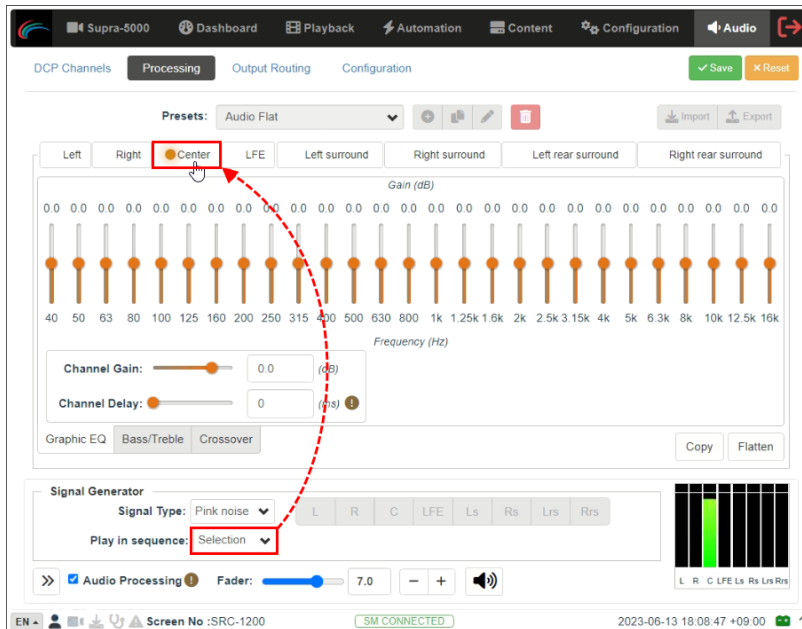

Figure 155: Play Test Signal through selected EQ channel
- c) You can select the 'Selection' option from the **Play in sequence** drop-down in order to play the test signal through the channel which is selected for EQ on top (as shown in **Figure 155**).